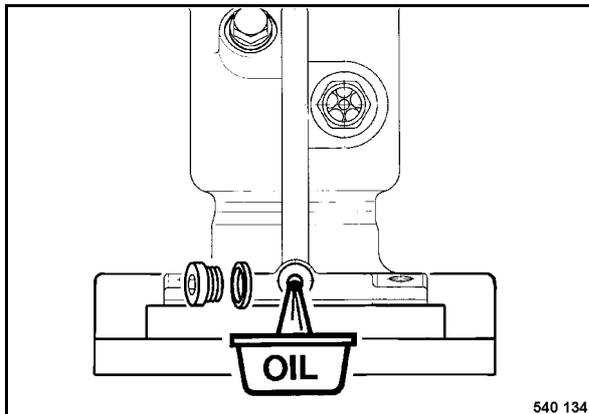

Fig. 57
- Clean the oil drain plug (Fig. 57) and screw it out, let the oil run out.